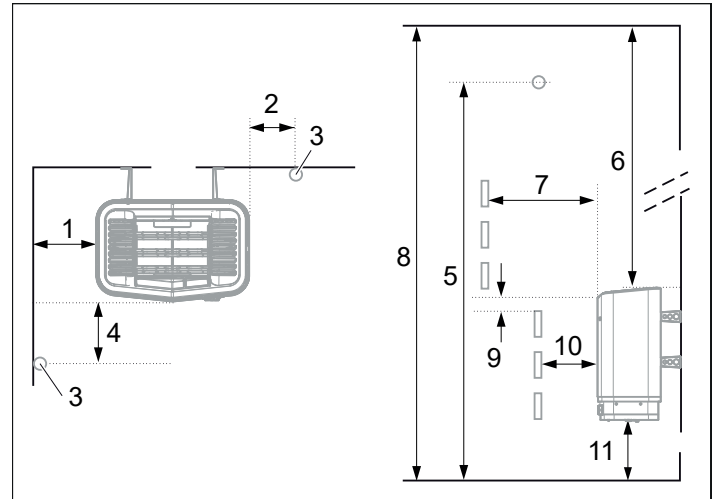
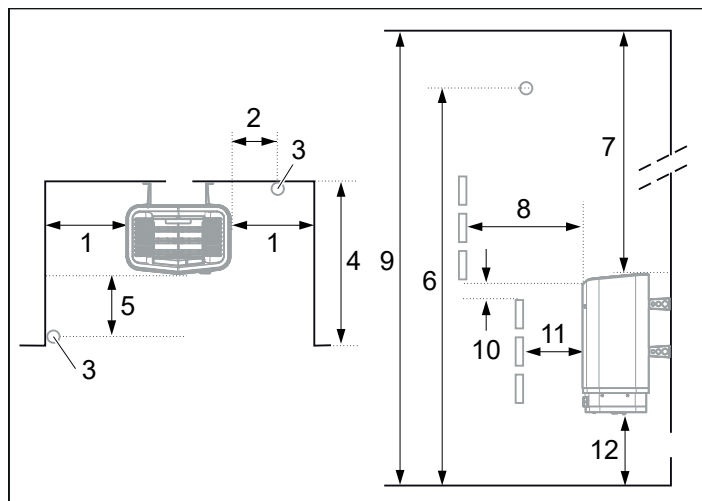

Figure 4: Positioning the heater - normal installation
Figure 6: Positioning the heater - recess installation
- Plan the sensor positioning (see Figure 4 and Figure 6).
- on the same wall as the door (or the side wall if very close to the door wall). The heater may also be placed in a recess (see Figure 6).
- Position the heater at a safe distance from the floor, side walls and interior fittings (see Figure 4).
Position the sensor according to the picture (see Figure 4).
1. Position the heater at a safe distance from the floor, side walls and interior fittings (see Figure 6).
2. Position the sensor according the picture (see Figure 6).